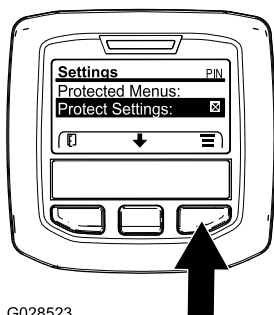

Figure 11
1. From the MAIN MENU, use the center button to scroll down to the SETTINGS MENU and press the right button (Figure 11).